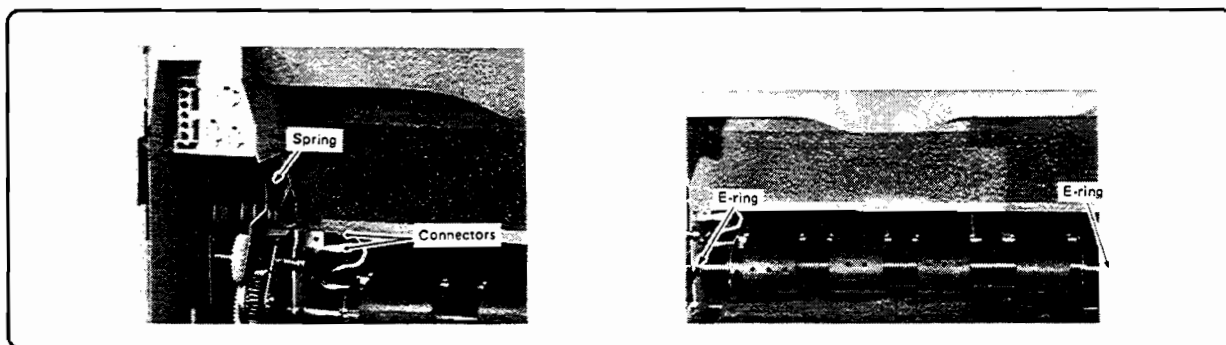

Figure 6-108. Feeder Belt Assembly Removal
2. Disconnect one end of the drive unit spring on the left side of the Fusing Assembly (see Figure 6-108).
3. Unplug the two connectors on the left end (see Figure 6-108).